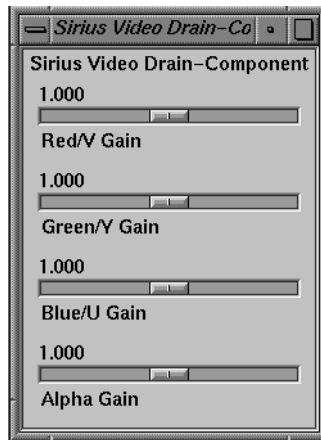

Figure C-21 Adjusting Gain for Component Video Drain
8. To adjust gain for component output video, select “Video Drain” in the Pro menu, and then select “Component.” The Sirius Video Drain Component window appears, as shown in Figure C-21.